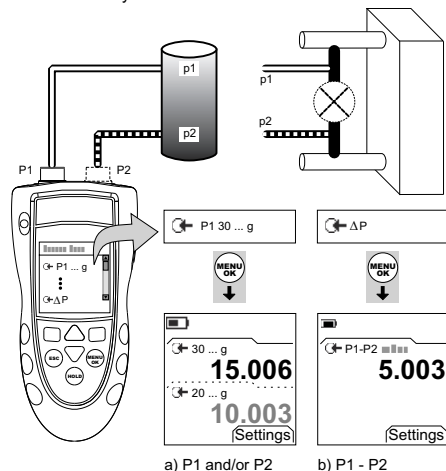

Figure 2: Example Configuration - Measure Pressure
1. Connect the instrument (Figure 2) and, if necessary, adjust the Set Up (Table 1).
The examples in Figure 2 shows:
1. Connect the instrument to the pressure standard (Figure 2).